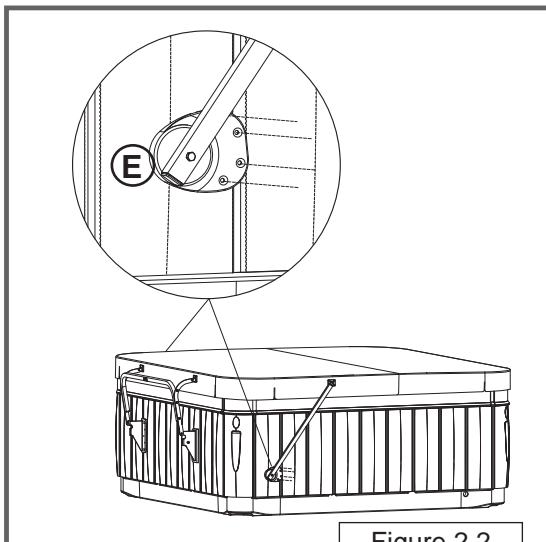

Figure 2.2
Position T1 or S1 Side Spacer against Pivot Bracket E, and insert two screws (L) from the back. Then position arm so rib of side spacer fits into appropriate groove, predrill 7/64" holes into the spa (Figure 2.2) with 1" max. depth. There are (4) holes per Pivot Bracket.
Position the Plastic Bottom (Pivot Bracket) (E) with the holes facing toward the middle of the spa (Figure 2.2).